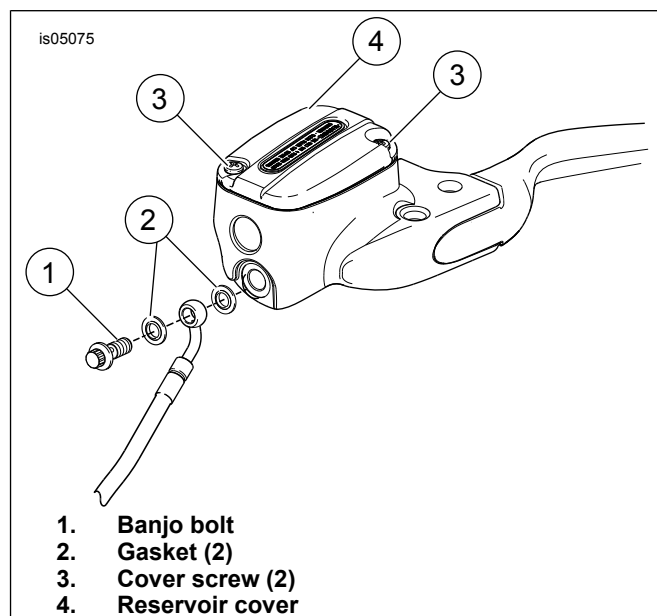

Figure 4. Clutch Master Cylinder/Reservoir
1. See Figure 4. Loosen both screws (3) on the reservoir cover (4) to relieve pressure in master cylinder reservoir.